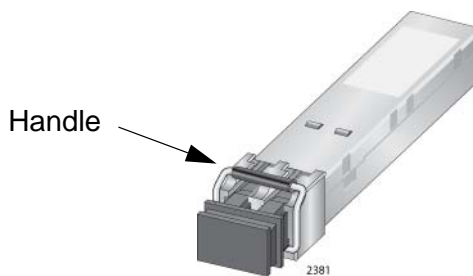

Figure 99. Handle on an SFP+ Transceiver
2. If you are installing the SFP+ transceiver in slot 1 or 3, orient it with the handle on top, as shown in Figure 99. To install it in slot 2 or 4, orient it with the handle on the bottom.